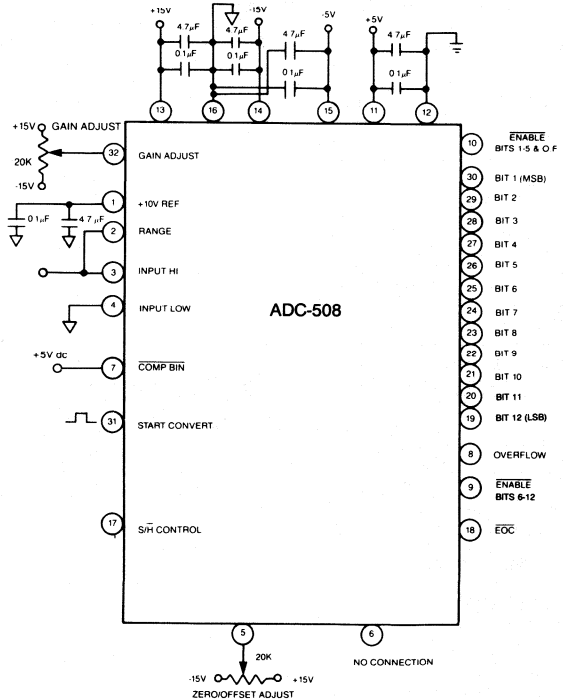

Figure 3. ADC-508 Calibration Circuit
1. Connect the converter per Figure 3 and Table 2 for the appropriate full-scale range (FSR). Apply a pulse of 50 nanoseconds minimum to the START CONVERT input (pin 31) at a rate of 500 KHz. This rate is chosen to reduce flicker if LED's are used on the outputs for calibration purposes.